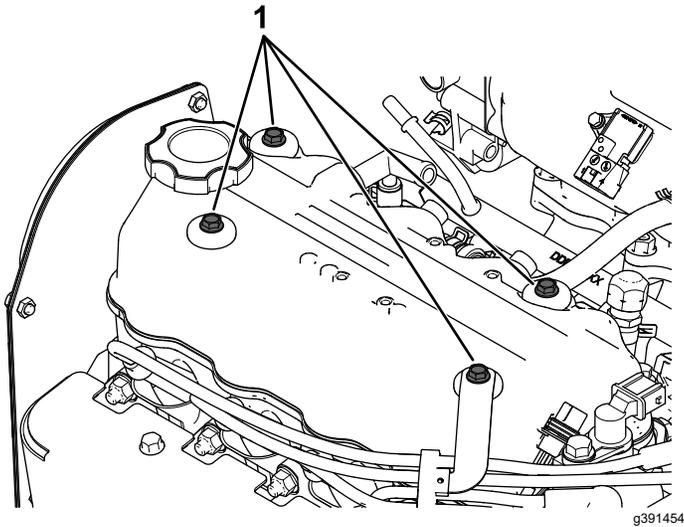

Figure 36
1. Remove the 4 bolts shown in Figure 36 from the engine.